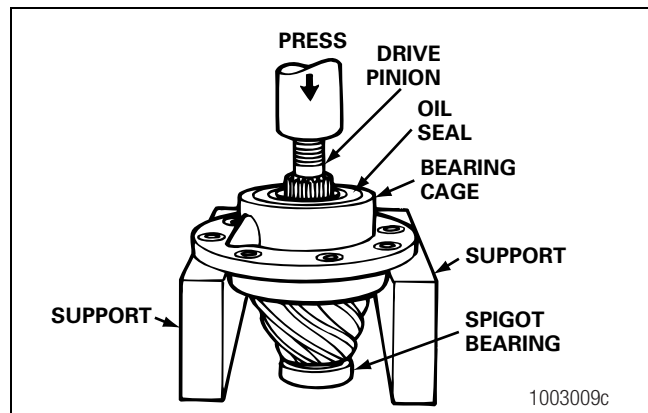

Figure 3.26
- Place the drive pinion and bearing cage in a press. The pinion shaft must be toward the top of the assembly. Figure 3.26.
- Support the bearing cage under the flange area with metal or wood blocks. Figure 3.26.
- Press the drive pinion through the bearing cage. The inner bearing cone and bearing spacer will remain on the pinion shaft. Figure 3.26.